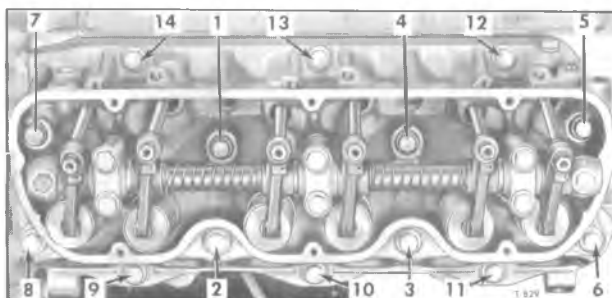

Figure 10—Cylinder Head Bolt Tightening Sequence
- a. Following sequence in figure 10, tighten all head bolts gradually to 90 foot-pounds torque.